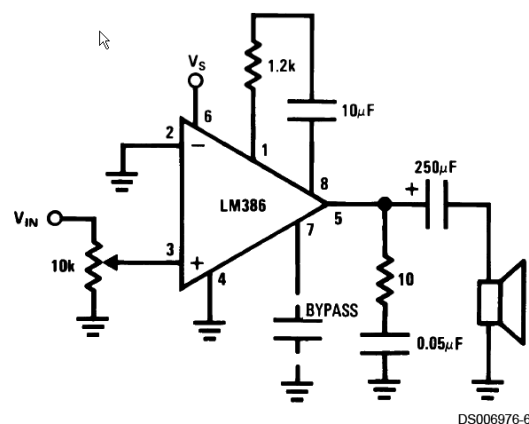

Figure 3.26: audio amplifier schematic with a gain of 50. A short across the 1.2k Ω resistor would result in a gain of 200. (from the datasheet)
- You might wish to change the connecting parts between pins 1 and 8 to vary the gain (see Figure 3.26).